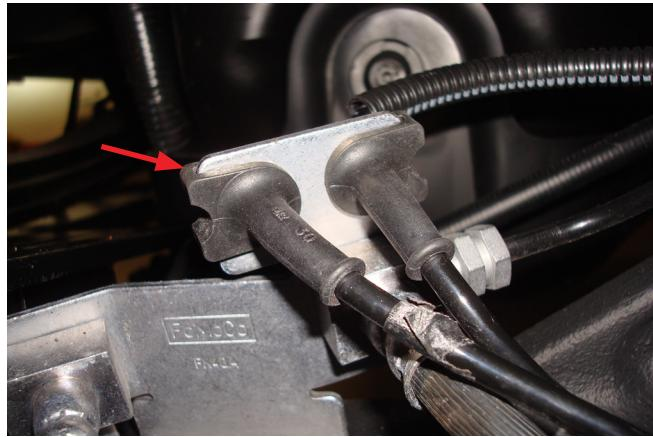

Fig. 19
2. Next, remove the ABS line from the top of the bracket by pulling it out of the slot (Fig. 19).